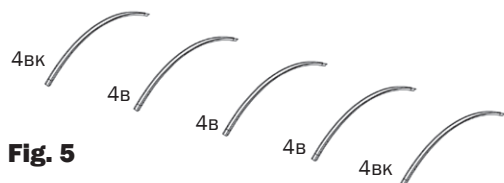

Fig. 5
2. Assemble greenhouse in accordance with photographs of assembling stages and units represented in **Fig. 5...12**. The figures show assembling of greenhouse of 4 m length. Required length is reached using attachment of appropriate number of insert packages. Use M4x8 screws for connection of elements.
Set out arcs **4B** and **4BK** (**Fig. 5**).